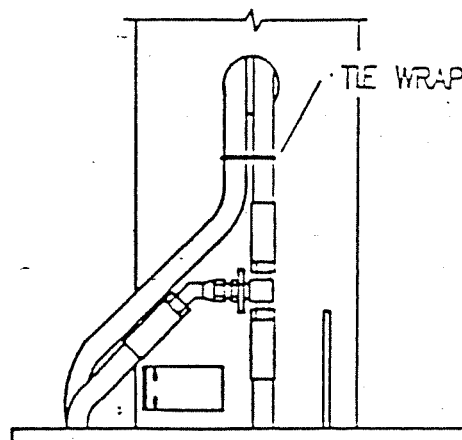

FIGURE 12
25. Mount the bulkhead branch tee fitting to the mainside upright bracket and attach the 3/8 JIC 45 swivel fitting as shown in Figure 12. The 55" hose runs from the bulkhead fitting down thru the leg top, behind the cylinder down to the mainside cylinder port. The 205" hose runs from the bulkhead fitting, up thru the side hole of the upright, over the top of the overhead beam, down thru the offside upright, thru the leg top, down the rear of the cylinder to the port. Tie-wrap these hoses to the cylinders as shown in Figure 11 on the previous page. The 62" hose runs from the 45 swivel fitting down thru the guides on the leg to the high pressure port on the power unit.